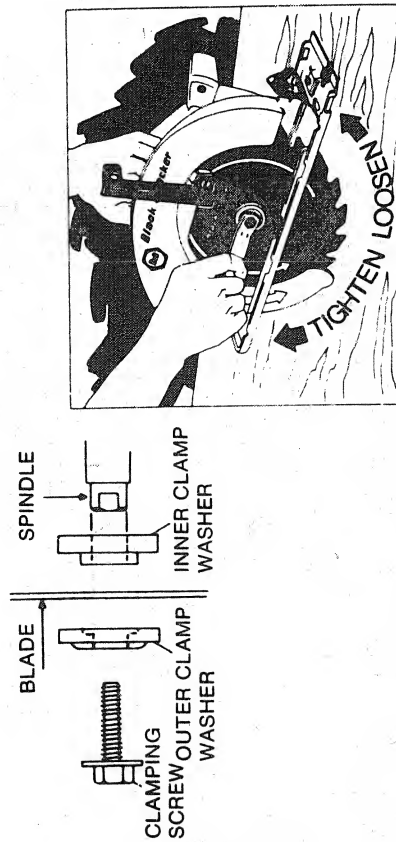

FIGURE 2
- b. ON SAWS WITH BLADE ATTACHED. Using the retracting lever, retract the lower blade guard and place the Saw on a piece of scrap lumber as shown in Figure 2. Press down on the Saw so that the blade teeth dig slightly into the lumber and prevent the blade from turning. Then, with the blade wrench provided, turn the clamping screw counter-clockwise and remove the screw and outer clamp washer. Disengage the blade teeth from the lumber, and with the lower blade guard still retracted, lift off the blade.
3. To attach the blade: Place inner clamp washer on spindle if previously removed. Retract lower blade guard and place blade over inner clamp washer with printed side of blade out (teeth at bottom pointing forward). Fit outer clamp washer onto spindle ... "flats" on the outer washer must mesh with the "flats" on the spindle. Thread on clamping screw firmly by hand to hold washers in position. Place saw on piece of scrap lumber as shown in Figure 2 and press down on the Saw so that blade teeth dig slightly into wood and prevent the blade from turning. Tighten clamping screw (clockwise) firmly with the blade wrench.